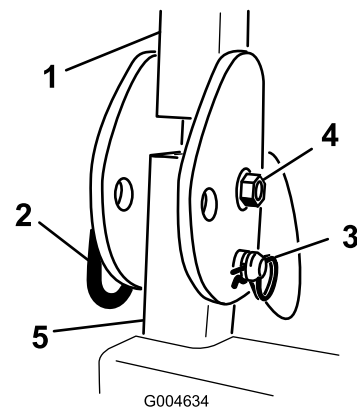

Figure 4
1. Remove the hairpin cotter pins and remove the 2 pins from the roll bar (Figure 4).
2. Raise the roll bar to the upright position and install the 2 pins and secure them with the hairpin cotter pins (Figure 4).